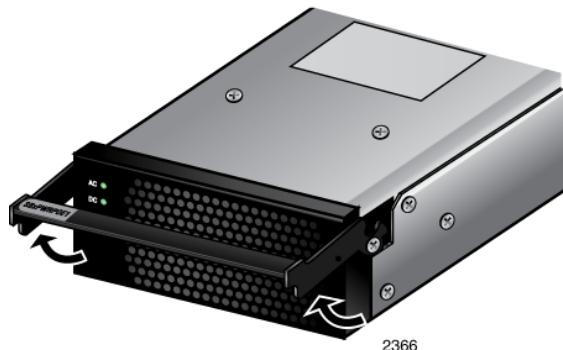

Figure 53. Unlocking the Handle on the AT-SBxPWRPOE1 Power Supply
5. Raise the locking handle on the AT-SBxPWRPOE1 Power Supply, as shown Figure 53.